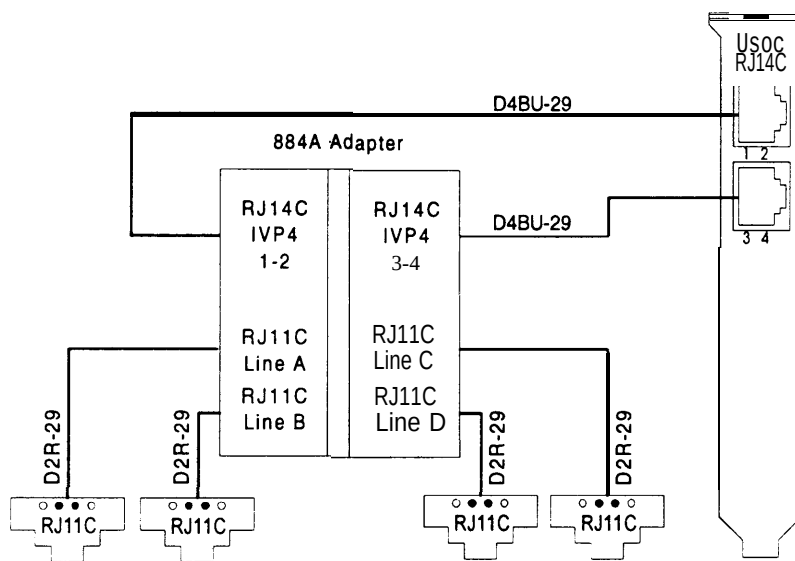

Figure 2-6. IVP4 Board with 884A Adapter for RJ11C
- If the line pairs are run individually (RJ11C), a type 884A adapter may be used to consolidate the four individual line pairs into two pairs (RJ14C) in each of two cables. (All necessary cables are supplied.) See Figure 2-6.